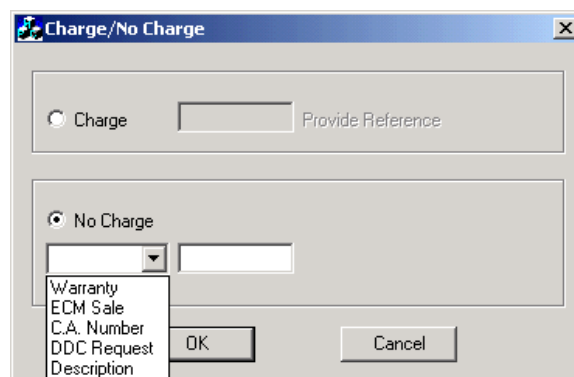

Figure 7
4. If you require a "No Charge" reprogram, see Figure 7. For further instructions on the "Charge / No Charge" screens, refer to the DDC Technical Service Letter **97TS-27**.